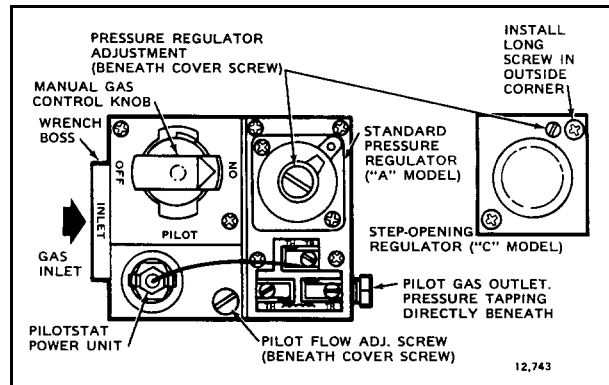

FIG. 6—TOP VIEW OF STANDARD CAPACITY GAS CONTROL.
6. Connect pipe to control inlet and outlet. To tighten inlet and outlet connections, use wrench on projecting wrench boss. Refer to Figs. 6 and 7.
3. Unscrew brass compression fitting from pilot gas outlet (Figs. 6 and 7). Slip fitting over tubing and slide out of way.
The thermocouple connection to the power unit or ECO connector (Figs. 6 and 7) is an electrical connection and must be clean and dry. Never use pipe compound. Tighten only 1/4 turn beyond finger tight to give good electrical continuity.